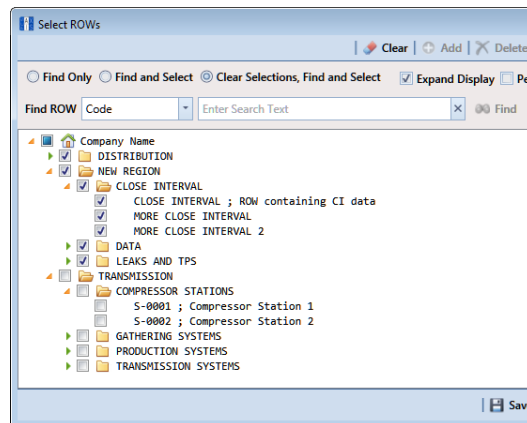

Figure 14-2. Select ROWs
- 1 Select the pipeline segments you want to work with in the *Select ROWs* window. Click the **Select ROWs** button  to open the *Select ROWs* window and then select one or more pipeline segments. Click  **Save** to close the window (Figure 14-2).
- 1 Select the pipeline segment(s) you want to work with in the *Select ROWs* window (Figure 14-2, page 655).